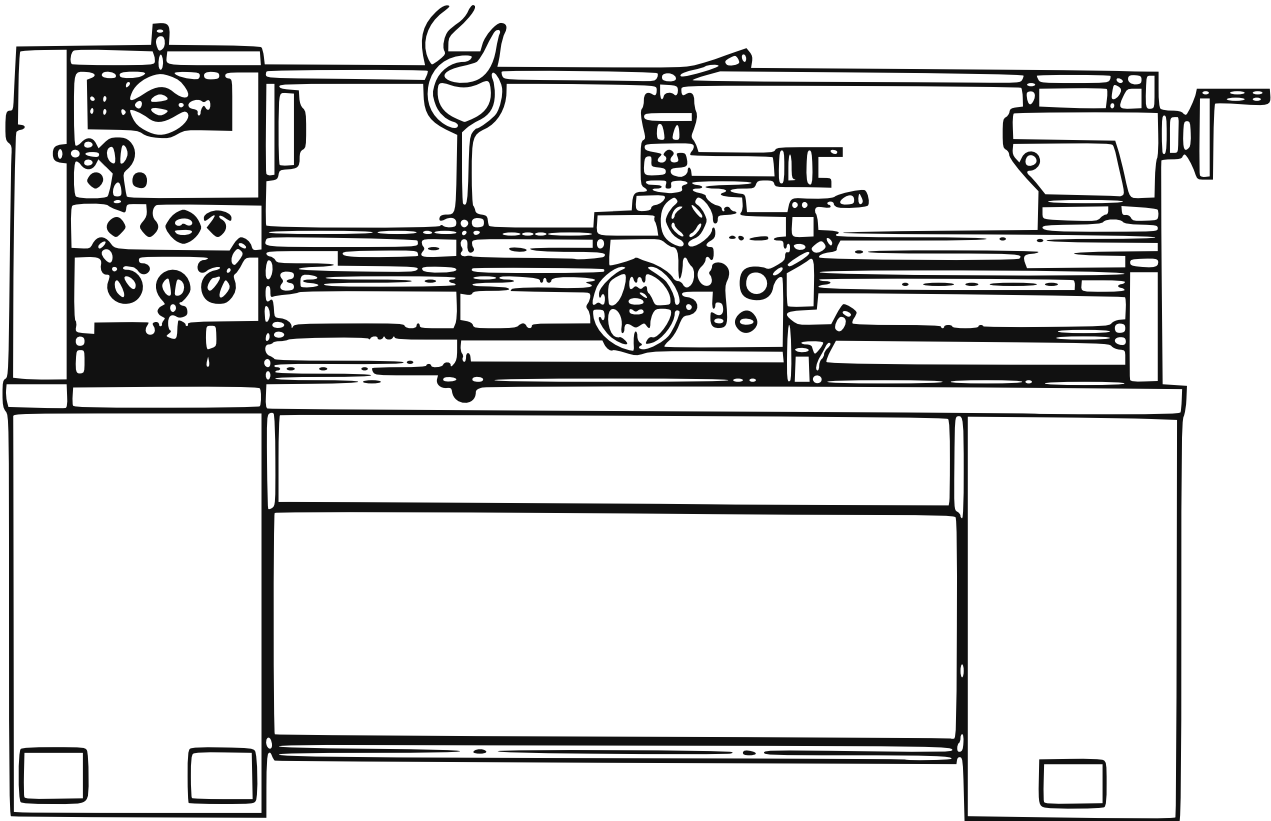

Figure 3-2: Lifting the lathe
- 1 Sling the lathe with sling-chains in the position shown in Figure 3-2, using the clamping plate, eyebolt and nut under the bed.